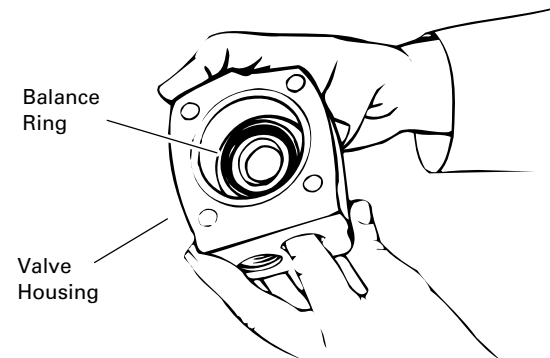
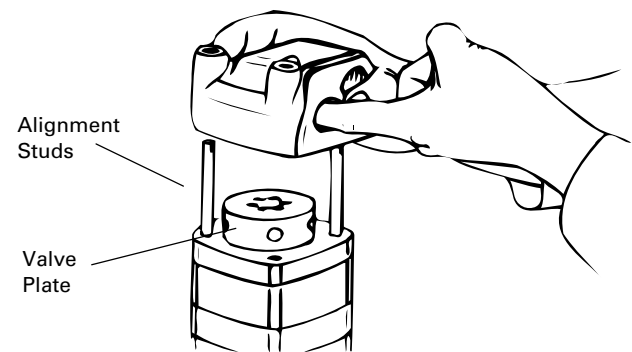

Figure 16.
Figure 17.
39. Insert your finger through port of valve housing. Apply pressure to side of balance ring as shown in Figure 16. Hold ring in position until valve housing is in place against valve plate (see Figure 17).